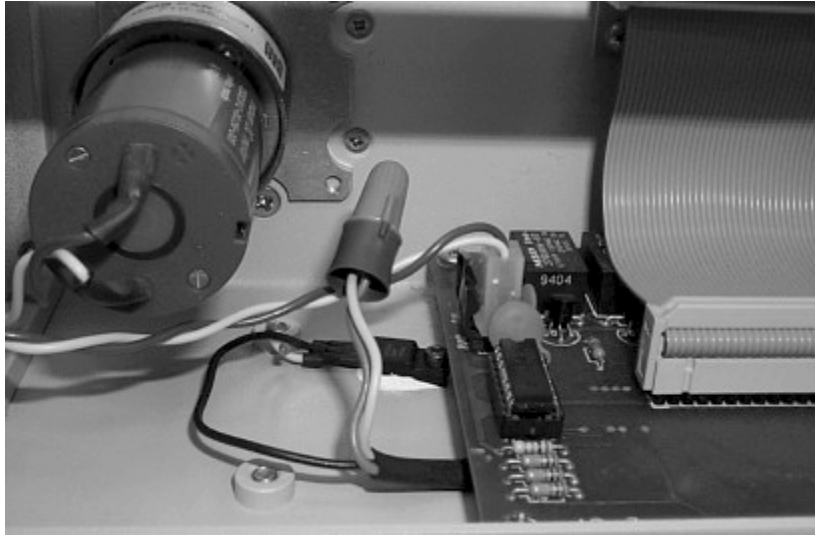

Figure 1-15. View of wire nut.
13. Strip approximately $\frac{1}{4}$ " of insulation from the end of each wire. Twist the two wires together. Install the wire nut provided in the pump kit. Place it over the twisted wires and turn the nut in a clockwise direction until it "bites in" to the wires. Pull on the wire nut while holding the wires. The wire nut should stay on the wires without pulling off. See Figure 1-15.